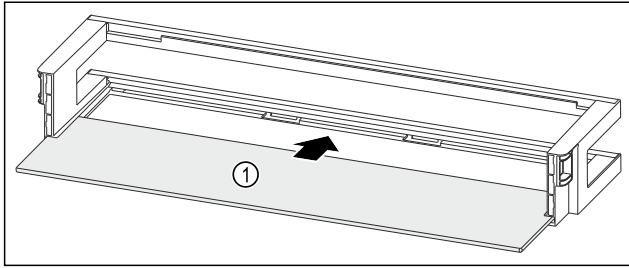

Fig. 98 Door rack with shelf
- ▶ Push the shelf Fig. 98 (1) into the side recesses.